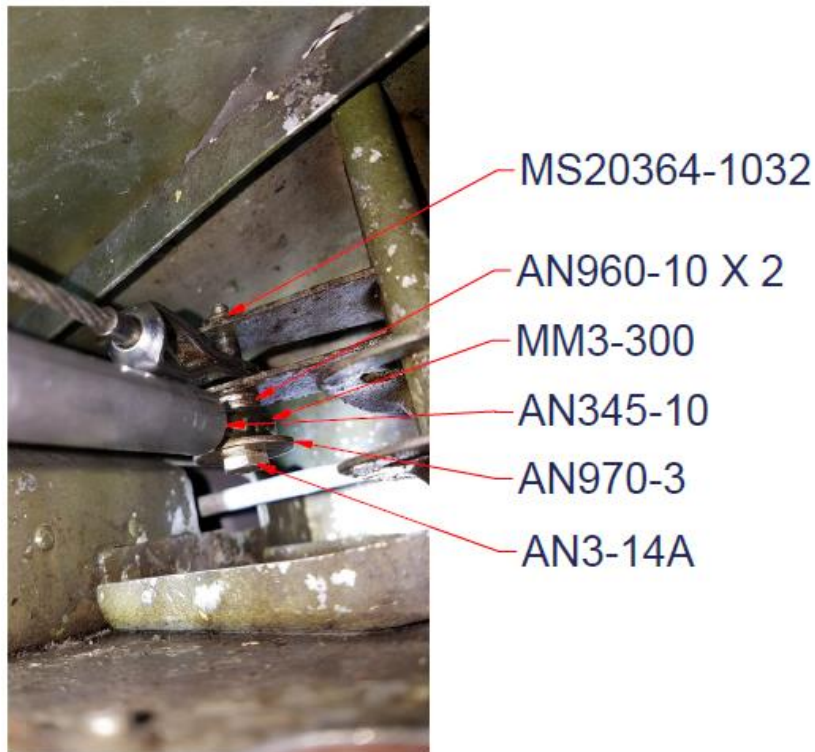

Figure 3-7
2.23. Remove the rear aileron cable bolt from the left aileron bellcrank and replace with hardware as shown in Figure 3-7